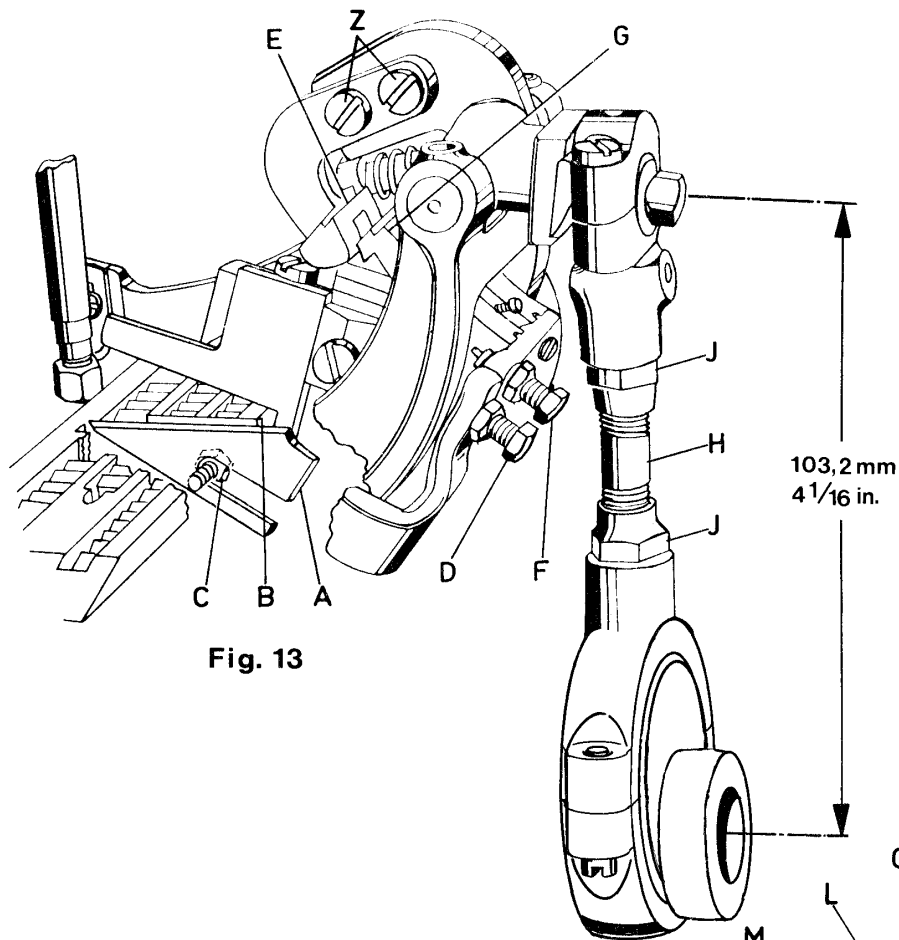
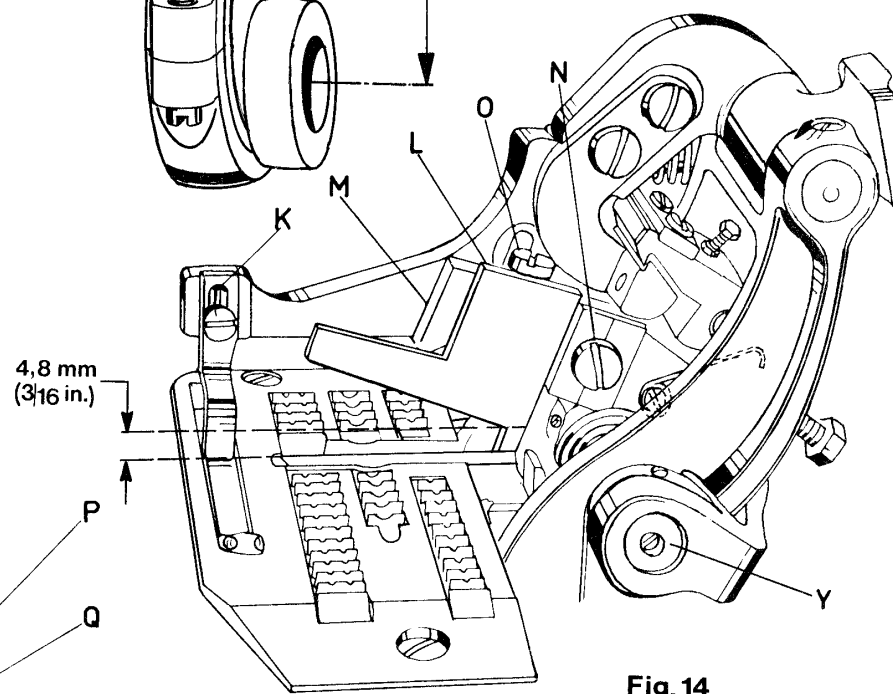
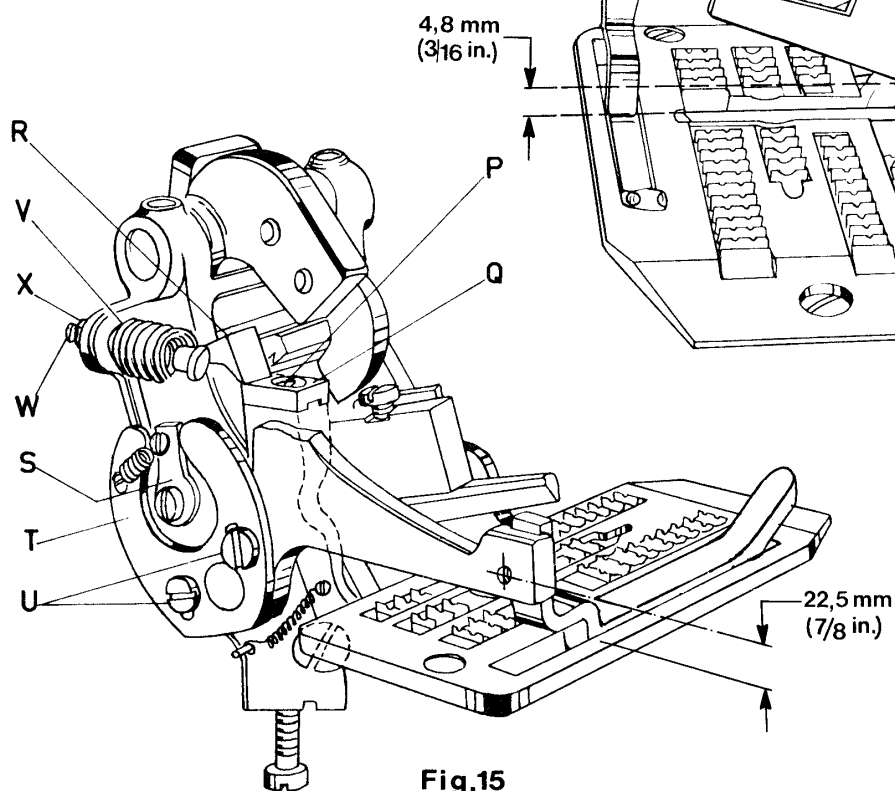

Fig. 13
Fig. 14
Fig. 15
2. Lay the throat plate temporarily on its seat. Loosen the hexagonal head adjusting screw (D, Fig. 13) and set so that the distance between top surface of throat plate and the center of thread hole for fastening the actuating shoe is 22.5 mm (7/8 in.) (see Fig. 15). Retighten screw (D, Fig. 13) with lock nut.
3. Set the lower knife (A, Fig. 13) so that the cutting edge is even with the top of throat plate (B) and tighten it in this position with the hexagonal head screw (C). Reassemble needle guard, feed dog and throat plate.
4. Assemble actuating shoe (K, Fig. 14) and set it so that the top surface of actuating shoe is even with the top surface of throat plate.
5. With a screwdriver, press the spring loaded knife lever shaft (Y, Fig. 14) to the rear and insert upper knife (L) in upper knife lever (M). Raise the upper knife as high as it will go, until the back of the knife cutting edge stops on the knife lever. Tighten the clamp screw (N) slightly.
6. Loosen screw (P, Fig. 15) and move shoe (Q) to extreme left. Turn handwheel until pawl (E, Fig. 13) is at its lowest position. Turn screw (F) until the edge of ratchet block (G) snaps over the edge of pawl (E), then add 1/4 to 1/2 turn more to ensure adequate clearance under operating conditions. Retighten the lock nut of the screw (F). If screw (F) is turned too far the mechanism will not work. Small differences can be equalized when loosening screws (Z) and adjusting the pawl (E) accordingly. Retighten screws (Z) firmly.
7. Move shoe (Q, Fig. 15) to the right so that pawls (R) will rest on the extreme right end of shoe. Shoe should have polished end to the right and point of pawls may overlap slightly over outside to insure trigger action during operation of machine.
2. Deje la plancha de aguja momentaneamente en su sitio. Suelte los tornillos de cabeza hexagonal (D, Fig. 13) y ajústelos de manera que la distancia entre la superficie superior de la plancha de aguja y el centro del hueco del pasahilo que asegura la lengüeta sea de 22,5 mm (Ver Fig. 15). Vuelva a ajustar el tornillo (D, Fig. 13) con la arandela de seguridad.
3. Ajuste la cuchilla inferior (A, Fig. 13) de manera que el borde de corte quede al ras con la parte superior de la plancha de aguja (B) y ajuste en su posición el tornillo de cabeza hexagonal (C). Monte de nuevo el guarda agujas, el diente de alimentación y la plancha de aguja.
4. Vuelva a montar la lengüeta de accionamiento (K, Fig. 14) y ajústela de manera tal que quede al ras con la parte superior de la plancha de aguja.
5. Con un destornillador, empuje el resorte inserto en el soporte de la cuchilla (Y, Fig. 14) hacia atrás e inserte la cuchilla superior (L) en el soporte de la cuchilla superior (M). Suba la cuchilla superior hasta su punto mas alto, hasta que la parte posterior del borde la cuchilla pare en el sujetador de la cuchilla. Asegure el tornillo sujetador (N) ligeramente.
6. Suelte el tornillo (P, Fig. 15) y mueva la lengüeta (Q) a la extrema izquierda. Gire el volante hasta que el diente de encaje (E, Fig. 13) llegue a su posición mas baja. Gire el tornillo (F) hasta que el borde del reten (G) se cierre sobre el borde del diente de encaje (E). Agregue 1/4 a 1/2 vuelta al tornillo (F) para asegurarlo en condiciones de operación. Asegure nuevamente la arandela de seguridad sobre el tornillo (F). Si el tornillo (F) se aprieta demasiado, el mecanismo no funcionará. Pequeñas diferencias pueden ser ajustadas soltando un poco los tornillos (Z) y ajustando el diente de encaje (E). Reasegure de nuevo los tornillos (Z) firmemente.
- Si no se consigue el ajuste del retenedor y el diente de encaje, puede ser necesario ajustar la varilla de conexión (H) ajustando las arandelas de seguridad (J). La distancia correcta centro a centro de la varilla de conexión es de 103.2 mm. Se pueden utilizar ajustadores individuales para corregir pequeñas diferencias de confección en los rollos de cinta.
7. Mueva la lengüeta (Q, Fig. 15) hacia la derecha de manera que el diente de encaje (R) descansa en la extrema derecha de la lengüeta. La lengüeta debe haber sido pulida para que el deslizamiento sea mas suave y se asegure el accionamiento del disparo durante la operación de la maquina.
8. When actuating shoe (K, Fig. 1e) is raised slightly, trip dog (S, Fig. 15) should allow pawl (R) to slide off shoe (Q) and the cutting action is released within 1 1/2 turn or less of the handwheel.
Raise actuating shoe (K, Fig. 14) slightly and turn handwheel in operating direction until upper knife (L) is in its lowest position. Left at the tip of the knives, the cutting edge of the upper knife should overlap the cutting edge of the lower knife by 1 mm (.040 in.)
When open there should be about 4.8 mm (3/16 in.) opening, right at the pilot of the upper knife (see Fig. 14).
NOTE: When the knives (A, Fig. 13) and L, Fig. 14) are resharpened, their adjustment is maintained by only raising and lowering them in their holders, according to the stock removed while grinding.
9. The position of the tape cutter actuating shoe (K, Fig. 14) determines the length of tape extending beyond the bag at the start of closure. The extending length of tape at the finish of closure is not adjustable.
Also the trip dog operating cam (T, Fig. 15) can be retarded or advanced to vary the length of the tape at the start of closure. Loosen screws (U) and turn the operating cam (T) toward the handwheel end of machine to shorten the extending length of tape and in the opposite direction to lengthen it. Retighten screws (U).
The actuating shoe tension spring (V, Fig. 15) is adjustable for various weights of material. Use screw (W) and lock nut (X) to make this adjustment. The tension should be just strong enough to press the actuating shoe down, back to its home position.
8. Cuando la lengüeta de accionamiento (K, Fig. 14) está subiendo suavemente, la punta del diente (S, Fig. 15), deberá permitir que el diente de encaje (R) deslice sobre el patín (Q) y la cuchilla cortará la cinta en 1 1/2 vueltas o menos del volante.
Eleve la lengüeta de accionamiento (K, Fig. 14) ligeramente y gire el volante en sentido de operación hasta que la cuchilla superior (L) llegue a su posición mas baja. A la izquierda de la punta de la cuchilla, el borde cortante de la cuchilla superior debe sobrepasar el borde cortante de la cuchilla inferior por 1 mm.
Cuando las cuchillas esten abiertas a su maximo recorrido, deberia haber una distancia de 4,8 mm (ver Fig. 14) justo en el soporte de la cuchilla superior.
NOTA: Cuando las cuchillas (A, Fig. 13) y (L, Fig. 14) sean afiladas, su ajuste se logra subiendo y bajandolas en sus soportes. Se recomienda sacalas para ser afiladas.
9. La posición de la lengüeta de accionamiento del cortador de cinta (K, Fig. 14) determina el largo de la cinta que sobresale en el saco al comienzo del cierre. La cinta sobrante al final del saco no es ajustable.
También el diente de operación del alimentador (T, Fig. 15) puede ser retrasado o adelantado para variar el largo de la cinta al comienzo del saco. Suelete los tornillos (U) y gire el diente de operación (T) hacia el volante al final de la maquina para acortar el largo de la cinta y en sentido contrario para alargarlo. Reasegure los tornillos (U) nuevamete.
El muelle de accionamiento (V, Fig. 15) es ajustable para los distintos gruesos del material. Este ajuste se realiza por medio del tornillo (W) y la contra tuerca (X). La tensión debe ser lo suficiente para presionar el diente de operación hacia abajo, de regreso a su posición original.